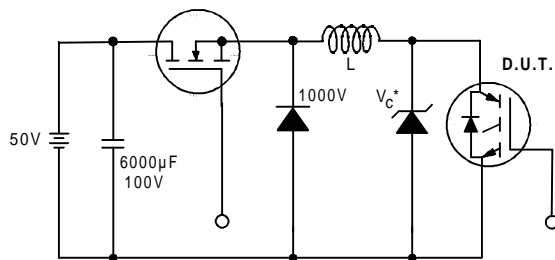

Figure 19. Clamped Inductive Load Test Circuit
- ② $V_{CC}=80\%(V_{CES})$, $V_{GE}=20V$, $L=10\mu H$, $R_G = 50\Omega$ (Figure 19)
- ③ Pulse width $\leq 80\mu s$; duty factor $\leq 0.1\%$.
- ④ Pulse width $5.0\mu s$, single shot.